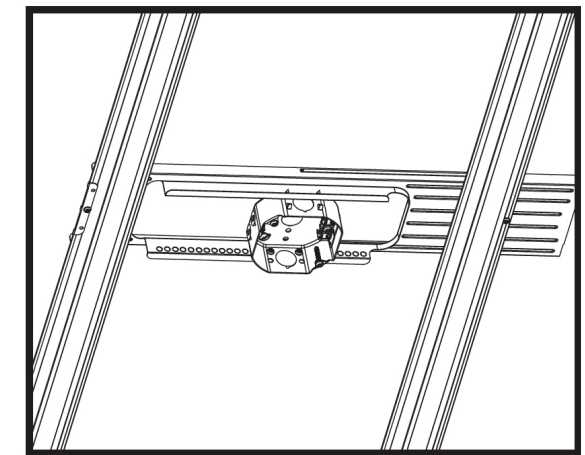

Figure 6
8. For 2 layers of drywall, use a 2 1/8 deep box and attach using the lower set of holes of the box (Figure 6).